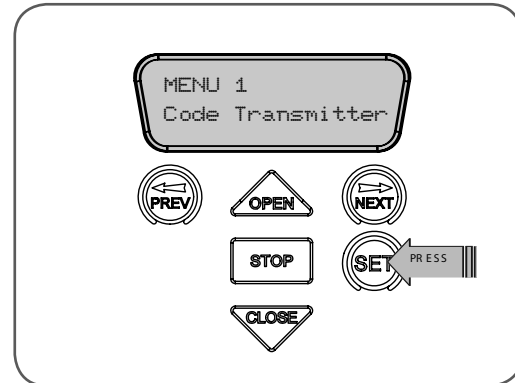

fig 18
2. Press SET to enter the code set procedure (Fig. 18).